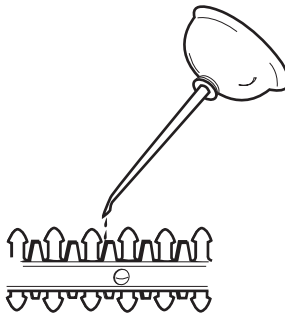

Fig. 10
2. Apply a light machine oil along the edge of the top blade (Fig. 10). Apply oil along the full length of the blade.